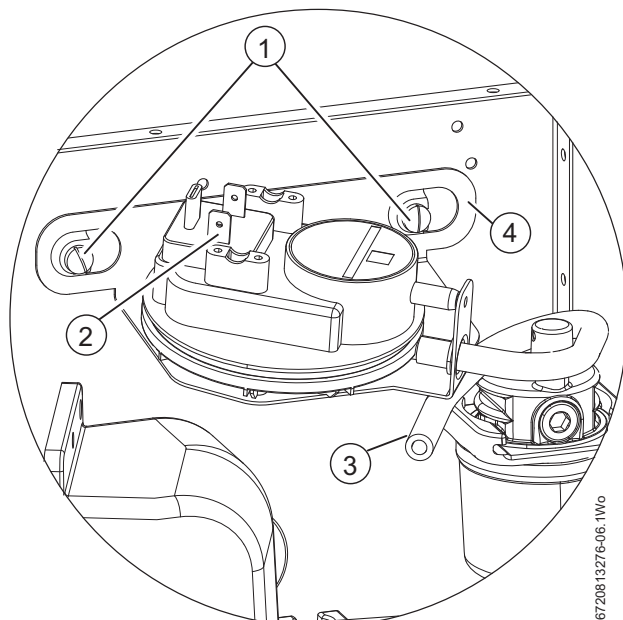

Fig. 82
- ▶ Re-connect the tube [3] to the switch, ensuring routing is looped as in figure 82.